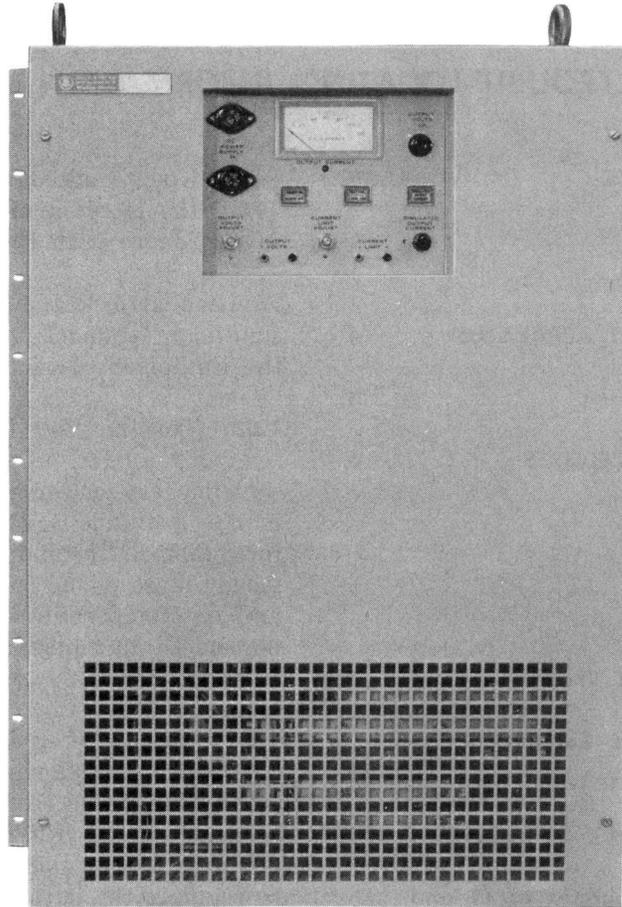

Fig. 1—KS-20491 Rectifier—Front View
**1.01** The KS-20491 rectifier (Fig. 1 and 2) provides regulated dc power from a single-phase ac source normally for use in charging and floating a 12-cell battery plant.